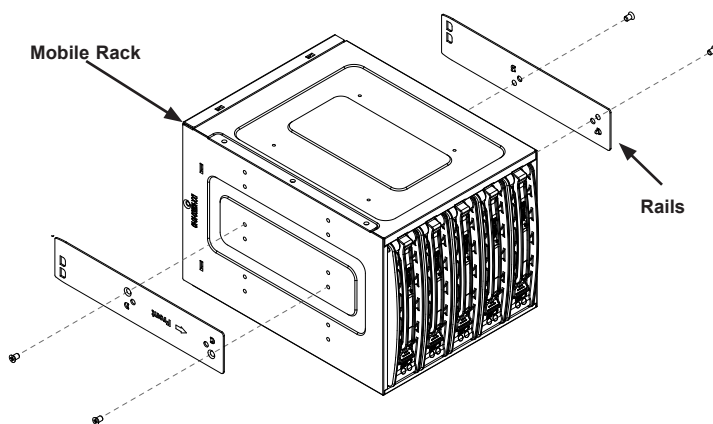

Figure 5-8. Add Rails to the Mobile Rack
5. Install all six rails onto the mobile rack. Each rail requires two screws. Make sure the arrow on the rail points toward the front of the chassis (Figure 5-8).